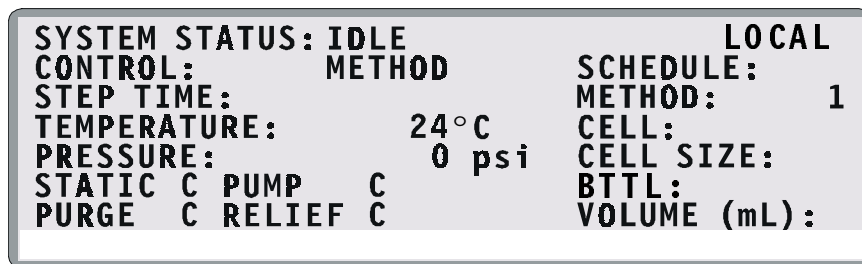

Figure 3-18. Current Status Screen
7. Move the cursor to the **NUMBER** field and enter the number of the method. Press **Enter** or a cursor arrow. This closes the **LOAD METHOD OR SCHEDULE** screen and opens the **CURRENT STATUS** screen. The **CURRENT STATUS** screen displays the method number, as well as the status of other ASE 300 operating parameters (see Figure 3-18).